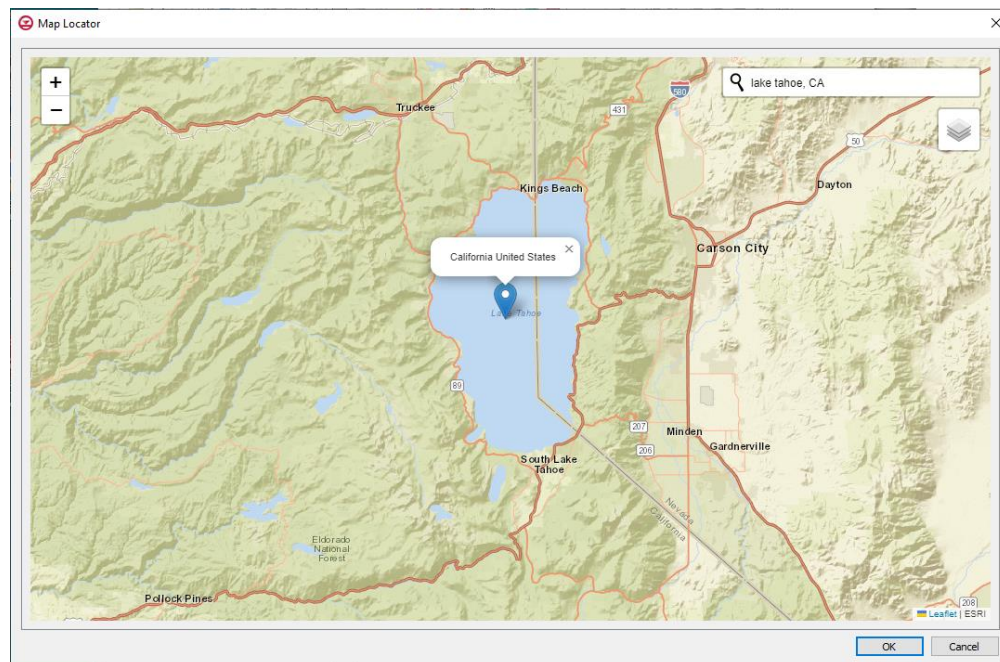

Figure 13 Map Locator dialog
3. Use the zoom and pan tools in the *Map Locator* dialog so that Lake Tahoe is located in the center as shown in Figure 13.